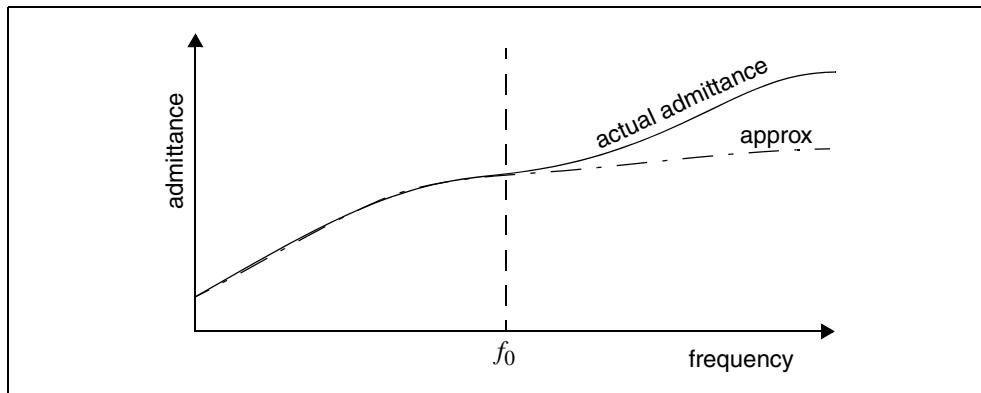

Figure 179 Multiport Admittance vs. Frequency
- The amount of reduction depends on the  $f_0$  upper frequency, the threshold frequency where `SIM_LA` preserves the admittance. This is shown in Figure 179.